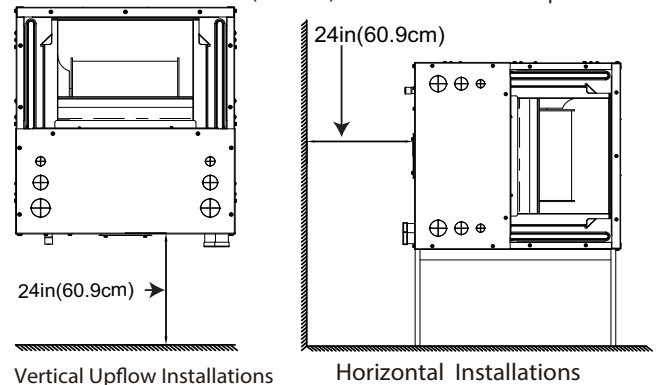

Fig. 6 — Installation Clearances
- Allow sufficient space for airflow and unit servicing. See Fig. 6 for the minimum required distances between the unit and the walls or ceilings.